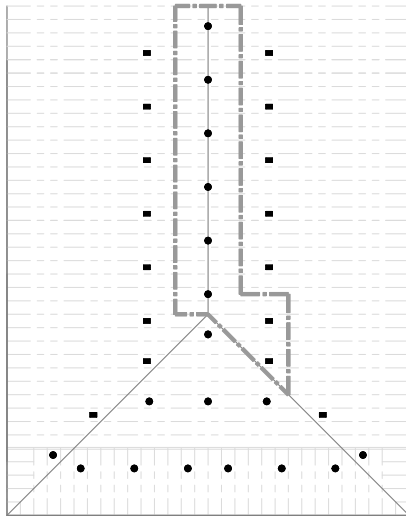

FIGURE 17A
- Calculate the most demanding 8 contiguous sprinklers with a maximum of 6 sprinklers along the ridge plus the 2 most demanding sprinklers within the hip area. See Figure 17A.